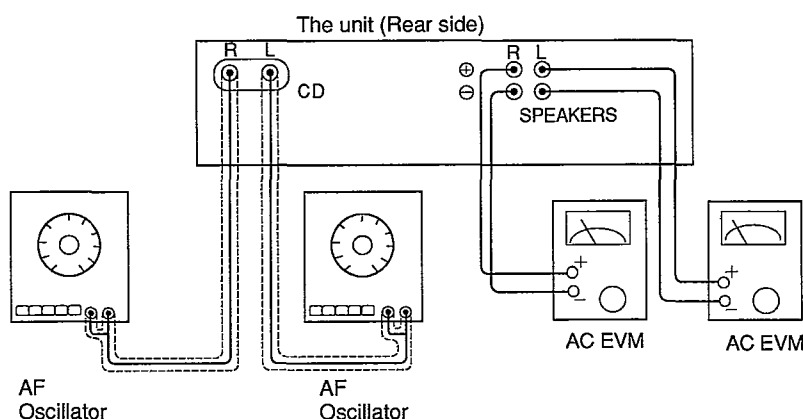

Fig. 2.
2. Connect an AF oscillator and AC EVM to the unit, as shown in Fig. 2.
3. Turn the power on to the unit and apply a signal (1kHz) from the CD terminal as shown in Fig. 2.